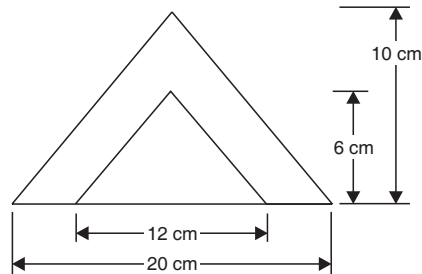

Fig. 5.39
8. Find the centroidal axis of the lamina shown in Fig. 5.39 parallel to the base. Find also the moment of inertia about this centroidal axis. [Ans. 4.08 cm ; 385.33 cm4]